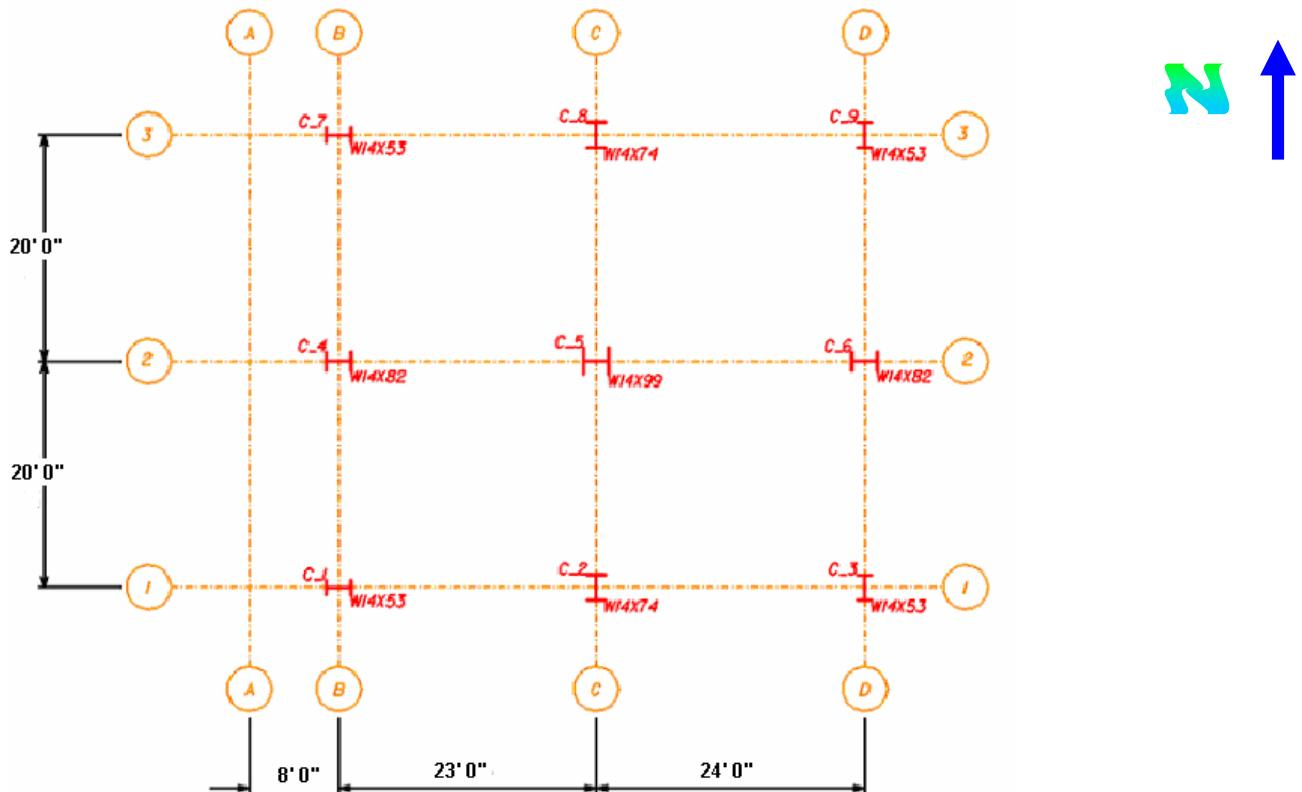
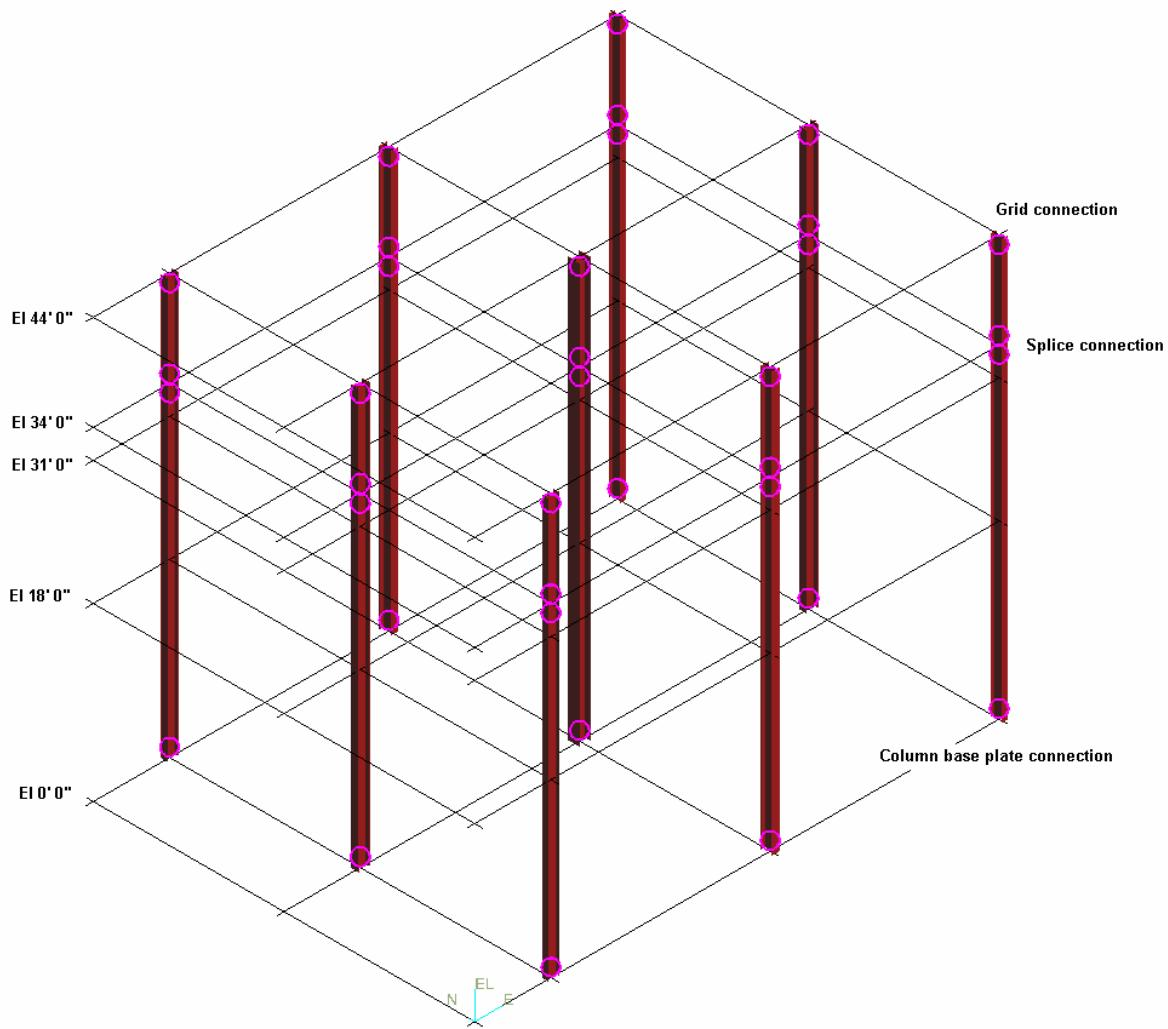

Figure 1 - Floor Plan
Figure 2 - Support Columns for the Two-Story Building
- 3 Select the place linear member command. Use the Floor Plan shown in Figure 1 and Figure 2 to place the appropriate support columns
Place all support columns as shown in Figure 1.
- 9 Figure 2 shows Frame and Split connections highlighted.